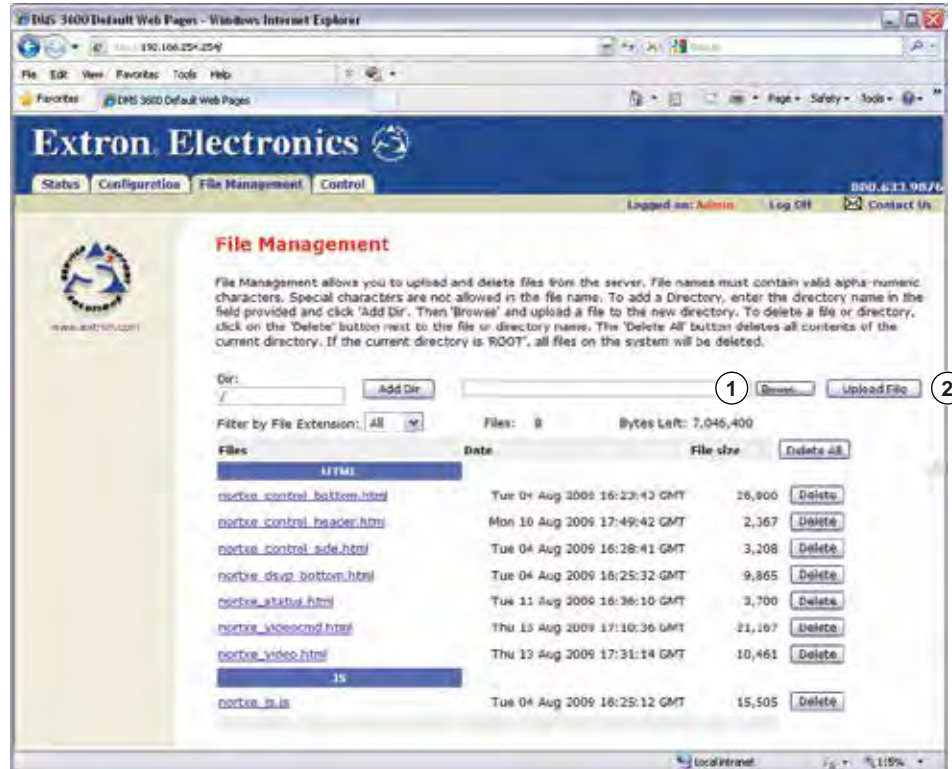

Figure 64. File Management Page
To delete files such as HTML pages from the switcher or to upload your own files to the switcher, click the **File Management** tab. The switcher downloads the File Management HTML page (see figure 64).
NOTE: The files listed in figure 64 are shown for example only and may not be present on your switcher.
1. Click **Browse** (see figure 64 (1)).